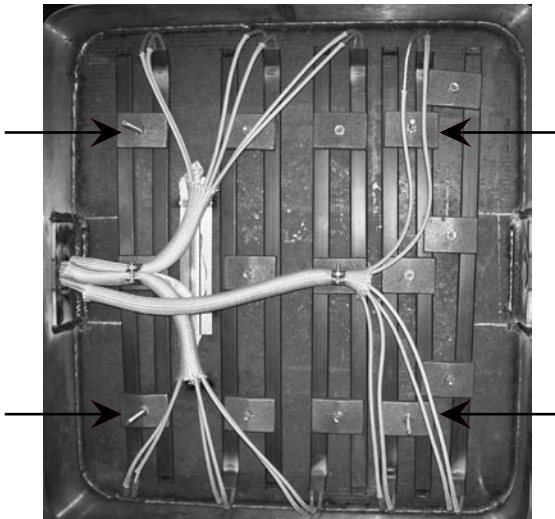

Fig. 1
- Remove cover from bottom of the pan by removing four nuts. (See Fig. 1)